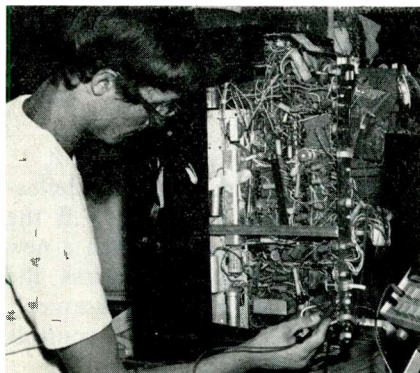

Figure 1 Testing important dc voltages in the vertical sweep section. This is one of the first steps for efficient servicing.
- Test all voltage supplies to make certain the voltages are sufficient. (Figure 1).